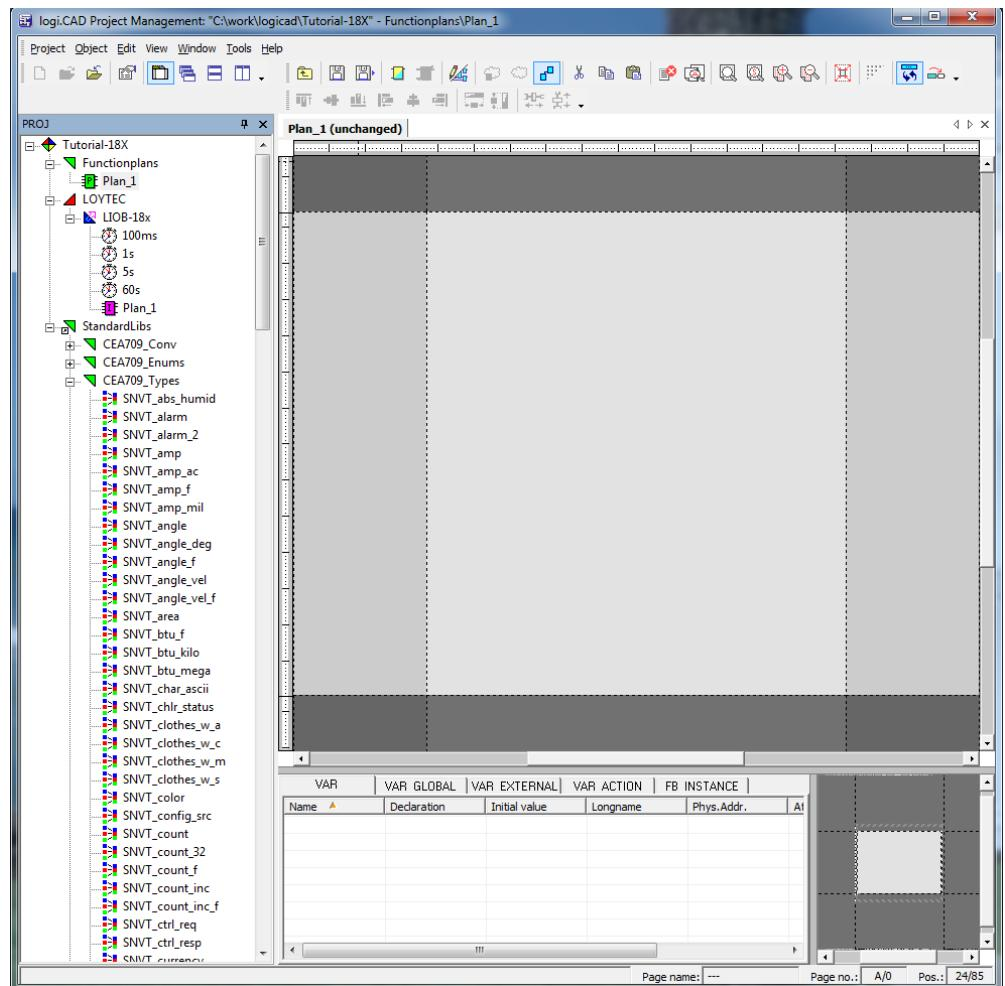

Figure 34: Edit Plan_1
7. As shown in Figure 34 below, expand the tree element **Functionplans** and double click **Plan_1** in order to start editing the plan.